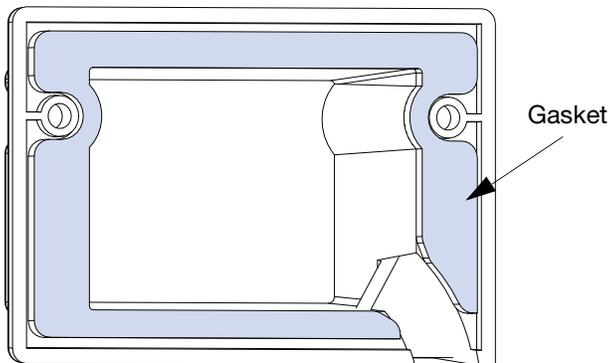

Figure 21: Rain Hood with Gasket Attached
**NOTE:** The rain hood comes with the gasket attached (Figure 21).